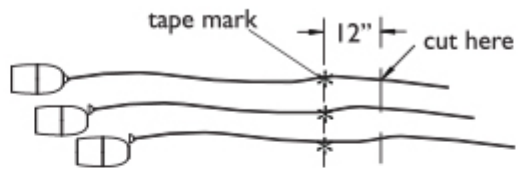

Figure 2
3. Measure an additional 12" from the tape marks and cut cords at this location. Discard excess wire. (Figure 2)